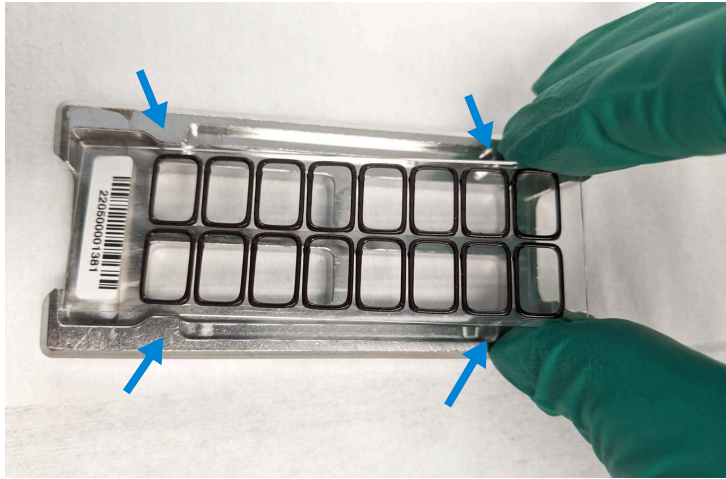

Figure 5 Chamber base, guide posts denoted with arrows
- 3 Position the gasket slide between the 4 chamber base guide posts (see **Figure 5**) with the barcode label resting over the base's rectangular barcode guide.